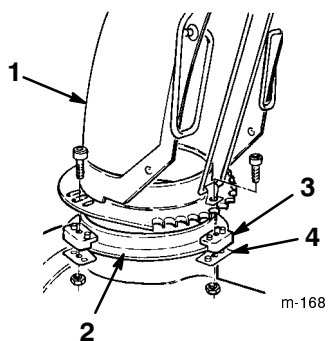

Figure 7
1. Apply a light coat of low-temperature grease to the chute ring (Fig. 7).
- Set the discharge chute (open side forward) onto the discharge opening so that the plastic chute retainers are on the chute ring (Fig. 7).
- Tighten the machine screw and the locknut on the left side to position the plastic chute retainer against the chute retainer plate and to secure the discharge chute to the chute ring (Fig. 7).
- Push the other chute retainers toward the discharge chute (slotted) and tighten the screws (Fig. 7).
- Make sure that the chute rotates freely on the chute ring. If the chute binds, move the right-hand retainer outward (Fig. 7).